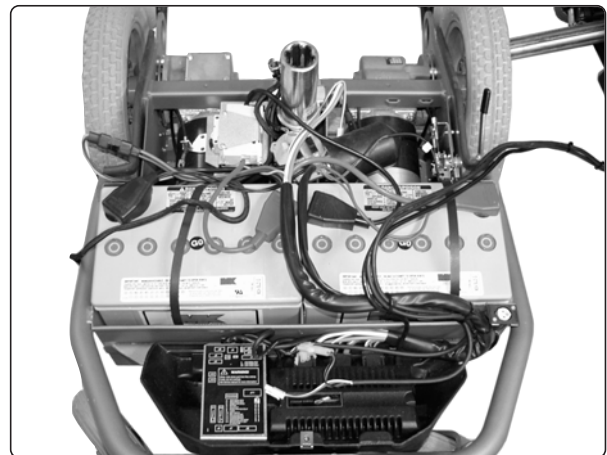

Fig.30. Lift off the seat.
6. Lift off the seat and lay it at the side, next to the chassis, see fig. 30.